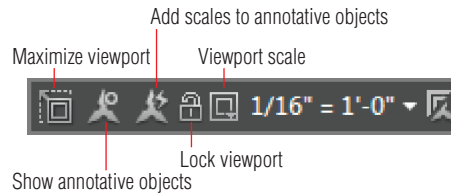

FIGURE 13.15 The status bar's appearance when a floating viewport is active
3. Choose $1/16'' = 1'-0''$ (or 1:200 in metric) from the Viewport Scale menu button on the status bar, as shown in Figure 13.15. The viewport zooms into the building core, which is in the center of the plan. At this exact zoom magnification, the plan appears in $1/16''$ scale (or 1:200) in the layout.